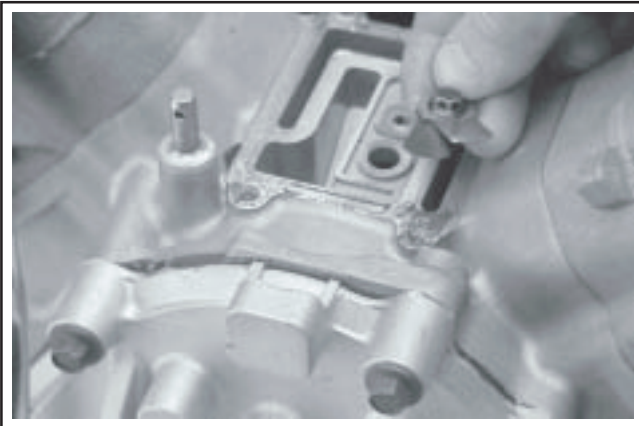

Figure 9-28. Removing the Breather Reed Assembly Parts.
4. Remove the hex. flange screw, breather reed retainer and breather reed from the breather chamber. See Figure 9-28.